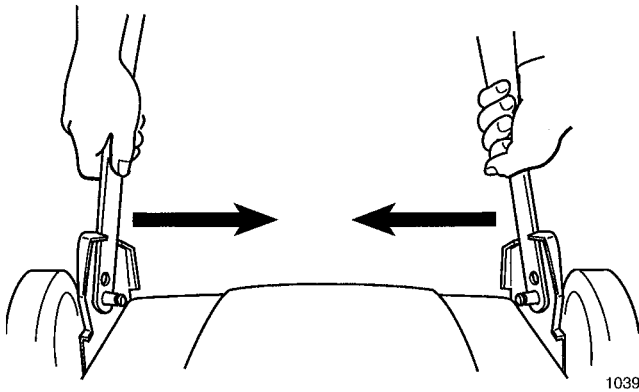

Figure 46
1. Squeeze bottom handle section together and slide past stops of handle brackets (Fig. 46).